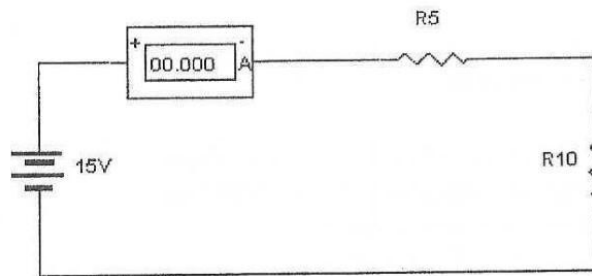

FIG. 2
Draw wiring diagrams (similar to Fig.2) showing the circuits to be used in Run II C and Run II D and Run II E. THIS MUST BE PRESENTED TO THE INSTRUCTOR AT THE BEGINNING OF THE LABORATORY.
- A. Connect the circuit of FIG. 2